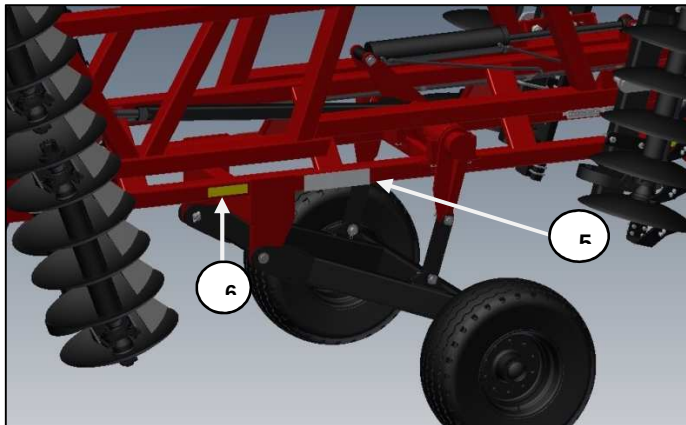

Figure 2 Outside of Left & Right Main Frame
Put Danger decal (5) and Yellow reflector (6) on each side of main frame Figure 2.